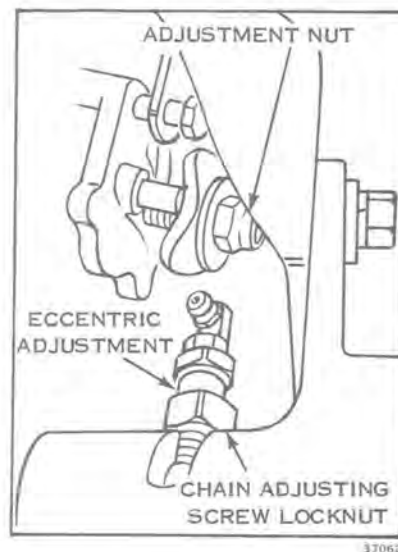

Figure 10-16
1. Loosen adjusting screw locknut (see Figure 10-16).
2. To tighten chain, pivot the eccentric adjustment downward (see Figure 10-16).
3. To loosen chain, pivot eccentric adjustment upward (see Figure 10-16).